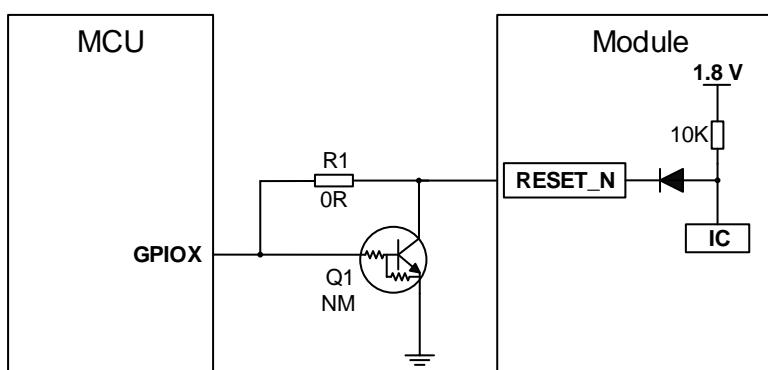

Figure 11: Reference Compatible Circuit for Module Reset
1. The Figure 11: Reference Compatible Circuit for Module Reset is the compatible circuit scheme of **RESET_N**. The corresponding circuit can be selected according to your demands (mounting either R1 or Q1).